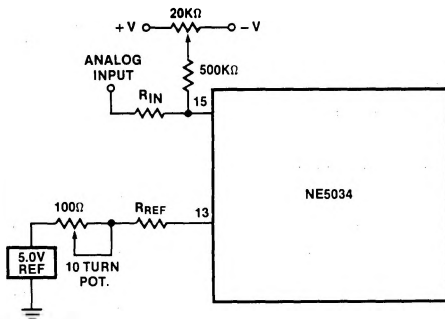

FIGURE 6. SUGGESTED ZERO/FULL SCALE ADJUST CIRCUIT
- Adjust the potentiometer connected to I_{IN} (see Figure 6) until the LSB flickers between '0' and '1', and all other data outputs remain '0' following each conversion.